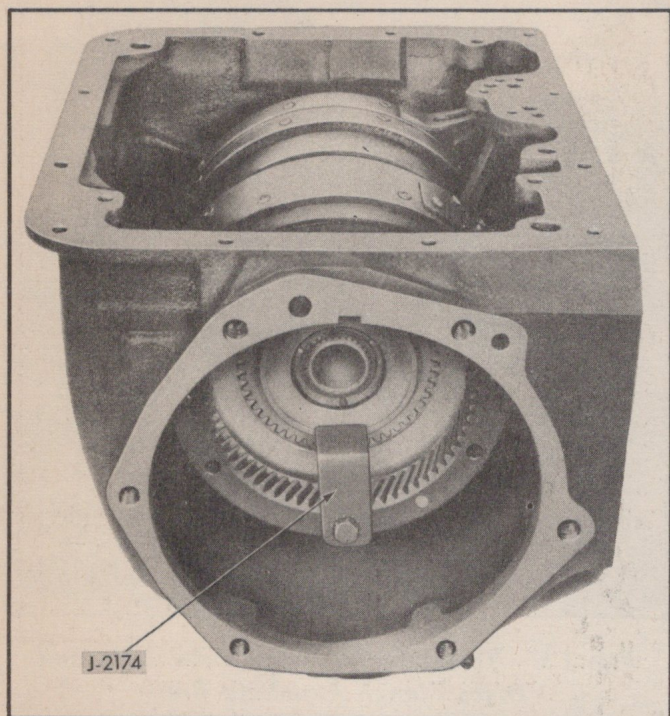

Fig. 129—Rear Hub Holding Tool Installed
7. Install rear hub holding tool and remove screw driver from in front of rear unit (Fig. 129).